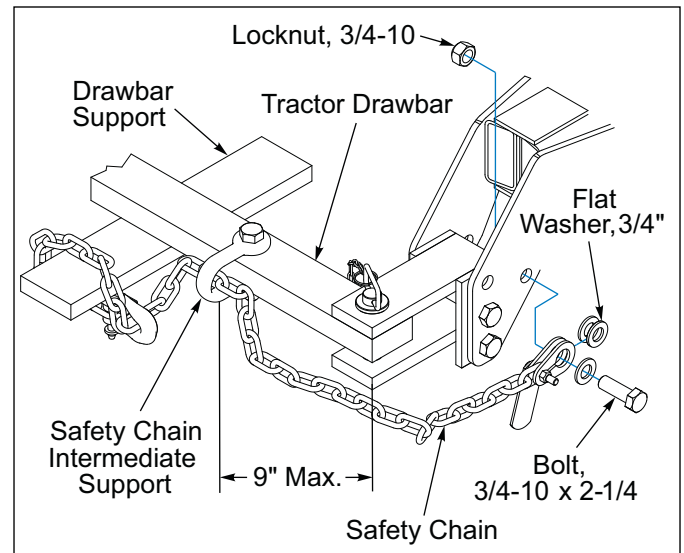

Figure 3-6: Safety Chain
5. Attach safety chain to tractor allowing plenty of movement for turning both directions. The safety chain should latch securely to prevent it from coming loose. See Figure 3-6.